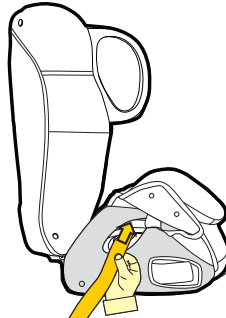

Figure 1.3
- Step 3:** Rotate the vehicle seat belt through the armrest, passing it across the shell and then pass it out through the other side of the seat (refer Figure 1.3).